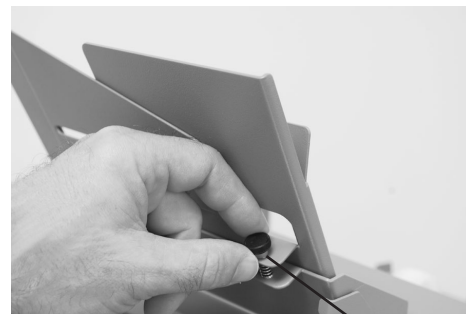

Fig 11b
2. Slide the pre-collated paper set into the multi-sheet feeder. When feeding stapled sets the documents should be placed with the staple on the operator's side and leading (Fig 11b).